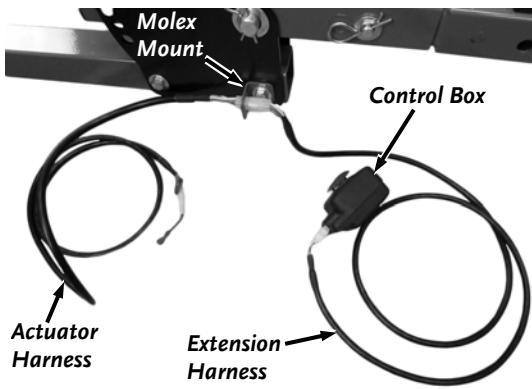

Figure 27
43. Insert the Connector of the Actuator Harness into the Molex Mount and push to snap in place (**Figure 27**).